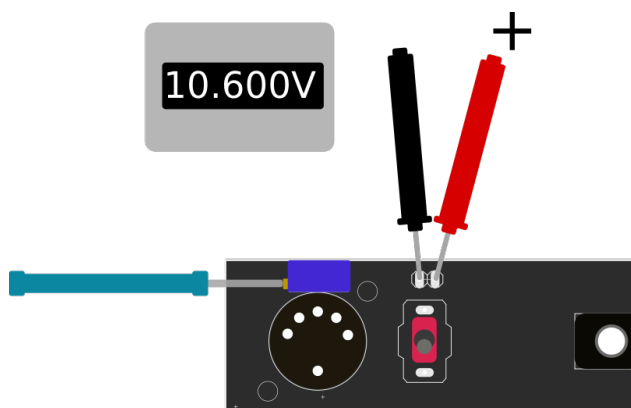

Figure 11: 10.6V start point
Step 1: Use a multimeter and a small flat screwdriver. Measure at the measurement point as shown in figure 11. Trim the potentiometer until a voltage of about 10.6V is set.